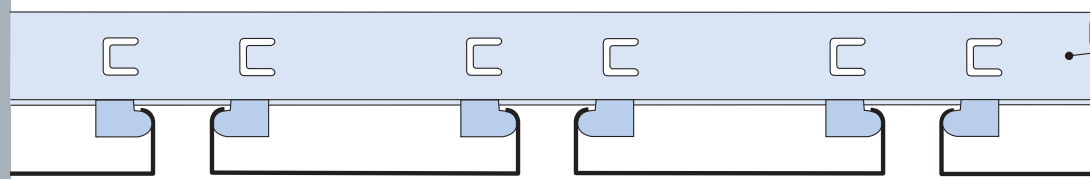

Fig.1 MODULAM profile M85H20 in cross section.
Suspended from the structural soffit by adjustable hangers (3A) (Fig.3) or (3B) (see rear page), Omega carriers (2i) (Figs. 1,2,3), contain preformed tongues in their base, over which the MODULAM profiles (1) are clipped. The tongue spacings dictate the joint width (J) and ceiling module (Mo).
Manufactured from light gauge aluminium or mild steel strip, the U shaped profiles (1) (Fig.1) in the MODULAM range are fixed as shown to create demountable linear interior ceilings.